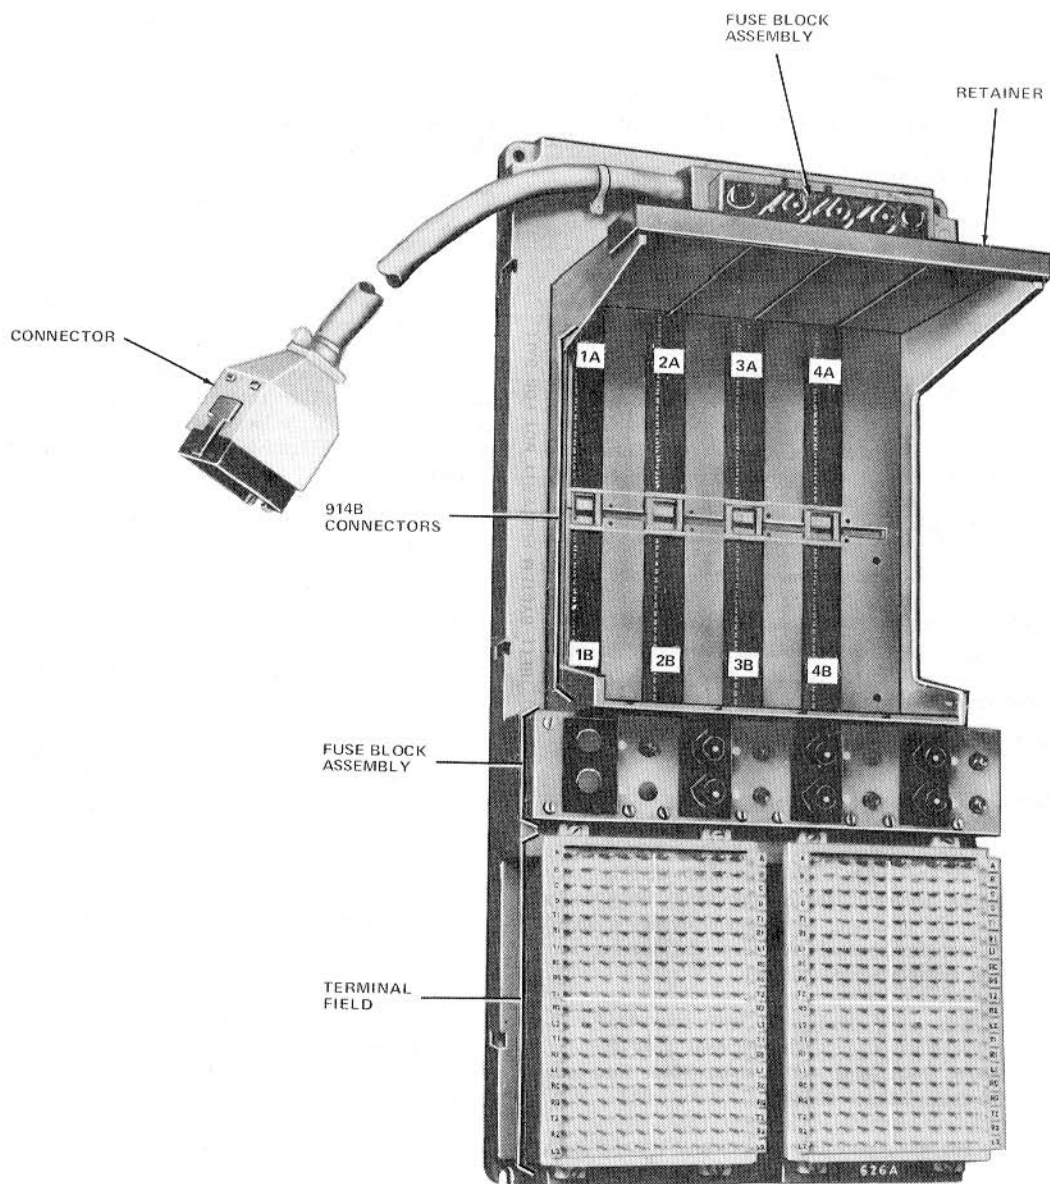

Fig. 3—626A Modular Panel
- 440A (MD)—TOUCH-TONE® Adapter Circuit
1.04 Detailed information on the 626A modular panel (Fig. 3) and its associated KTUs may be found in Section 518-215-421.